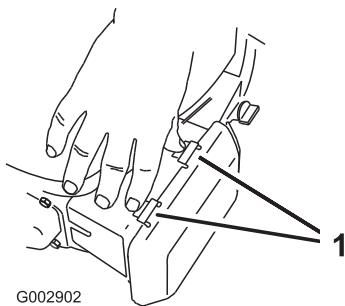

Figure 17
- Press down on the latch tabs on top of the air-cleaner cover (Figure 17).
3. Remove the air-cleaner element (Figure 17).